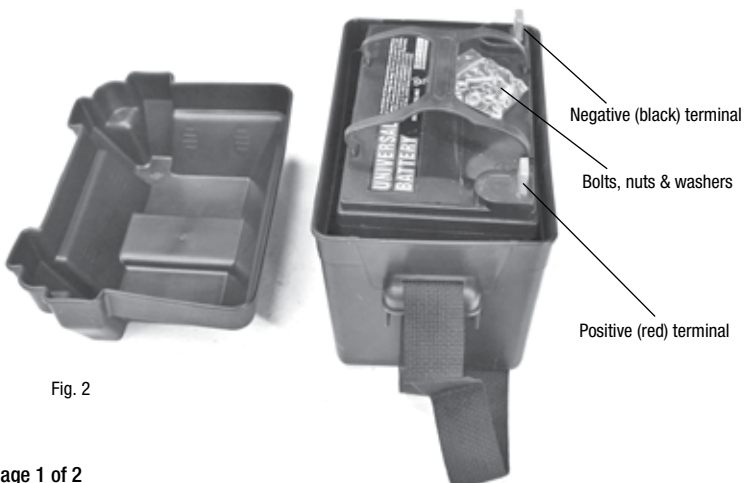
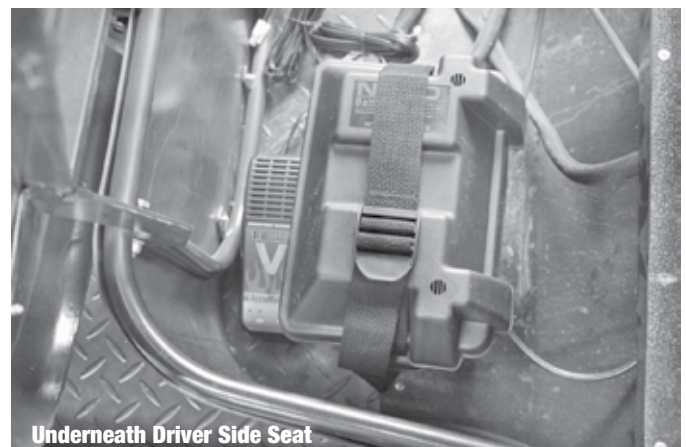
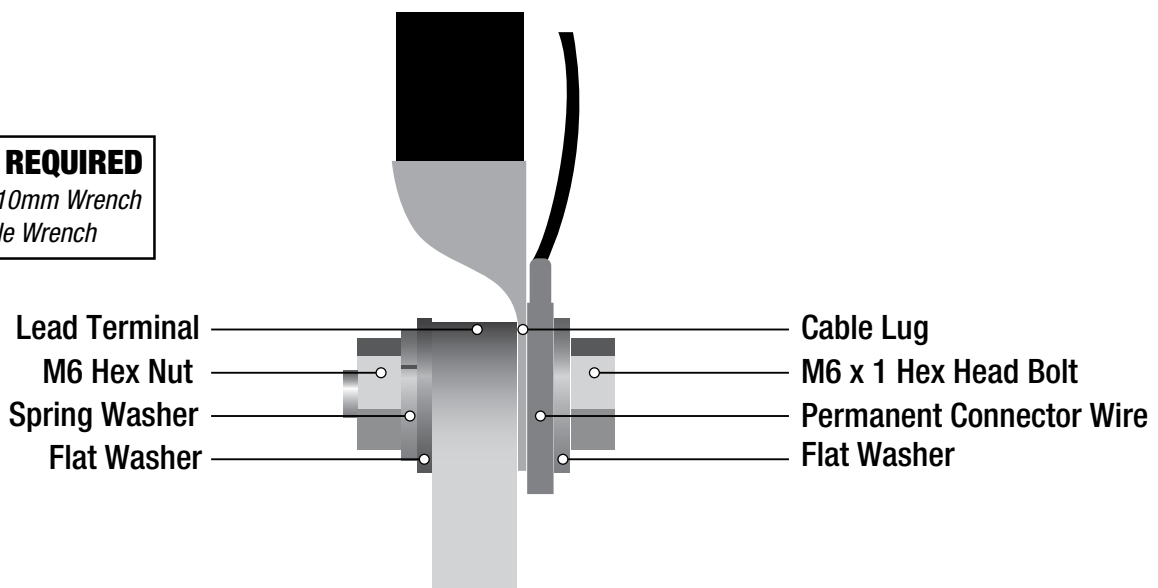

Fig. 2
Fig. 5 Finished installation
Fig. 6 Proper wiring to auxiliary battery terminals
- 2 Place the auxiliary battery into the battery enclosure as shown in figure 2. Place the enclosure under the seat on the driver side of the vehicle as shown in figure 5. Attach the supplied ⊕ positive (red) cable and the ⊕ positive (red) wire from the permanent connectors to the ⊕ positive (red) auxiliary battery terminal using the bolts, washers & nuts provided. Feed the positive cable through the access hole beneath the driver side seat and attach to the positive (red) terminal on the vehicle battery along with the existing positive cable. Refer to figure 6 on page 2 for proper connection to terminals.
- 3 Attach the supplied ⊖ negative (black) cable and the ⊖ negative (black) wire from the permanent connectors to the ⊖ negative (black) auxiliary battery terminal using the bolts, washers & nuts provided. Feed the negative cable through the access hole beneath the driver side seat and attach to the negative (black) terminal on the vehicle battery along with the existing negative cable. Refer to figure 6 on page 2 for proper connection to terminals.